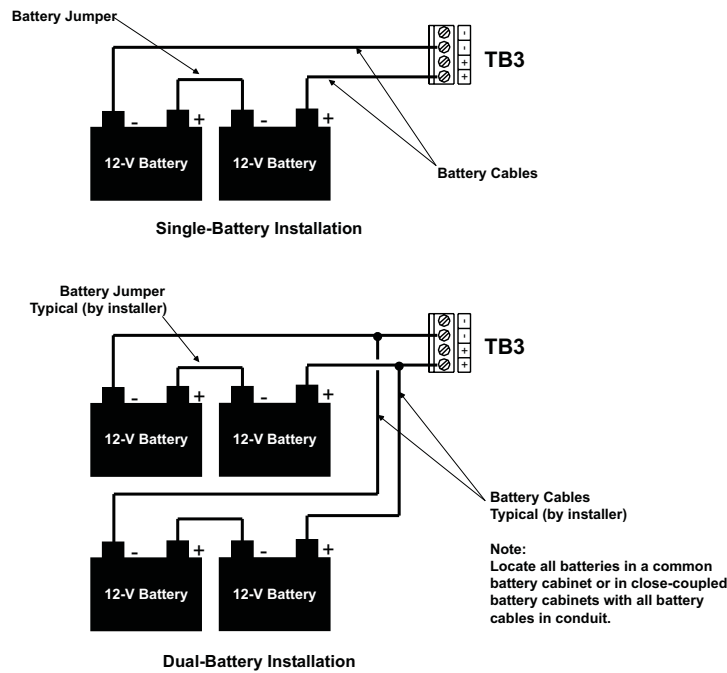

Figure 2-9. Standby Battery Connections
2. Connect two 12-volt, series-wired batteries of the required ampere-hour (AH) capacity to printed-circuit board Terminals TB3 using the battery cable. See Figure 2-9.